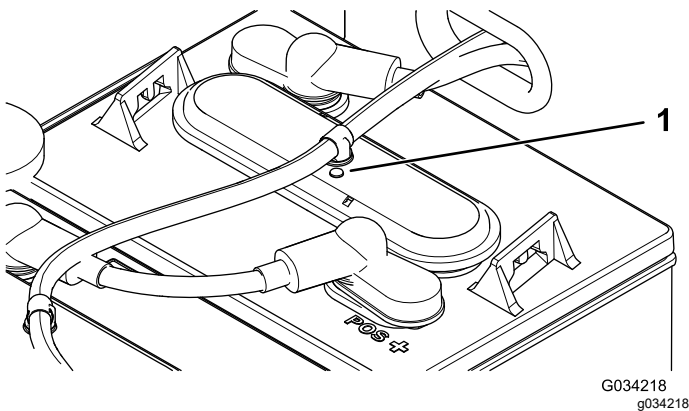

Figure 37
3. Check the eyelets on each of the batteries to see if they are either black or white (Figure 37).